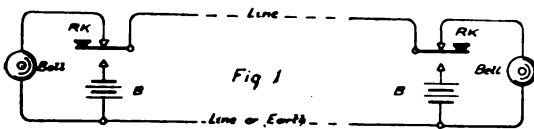

Fig. 1
Considering the calling circuit first, Fig. 1 shows a simple ringing circuit provided with two ringing keys R K, ringing batteries B, and two bells. If either of the keys are depressed, the circuit for battery B is made through the key lever, line, distant station's key, the top contact of the key lever, bell, and the return line or earth, as the case may be. It should be noticed that the ringing station's own bell is not included in the circuit, as the depression of either key disconnects that branch of the circuit in which the bell is placed. In any diagrams that follow a return line will be shown, though it may, unless otherwise indicated, be replaced by an earth connection at each station.
We have now to see how the circuits of Figs. 1 and 2 may be combined to permit of signalling or calling and speaking. Three changes have to be effected to enable speaking to take place. (1) The bells have to be taken out of the line circuit; (2) the batteries inserted in the line; and (3) the
Fig. 3 gives the connection for the complete circuit, and is shown with the receivers on the switch-hooks or automatic switches AS, giving the conditions of Fig. 1. It will be noticed that the bell at each end is now in circuit through an extra contact, *viz.*, that at the switch-hook. In all other respects the conditions are identical with Fig. 1. If, now, the receivers are both taken off their hooks, the bell circuit at both stations